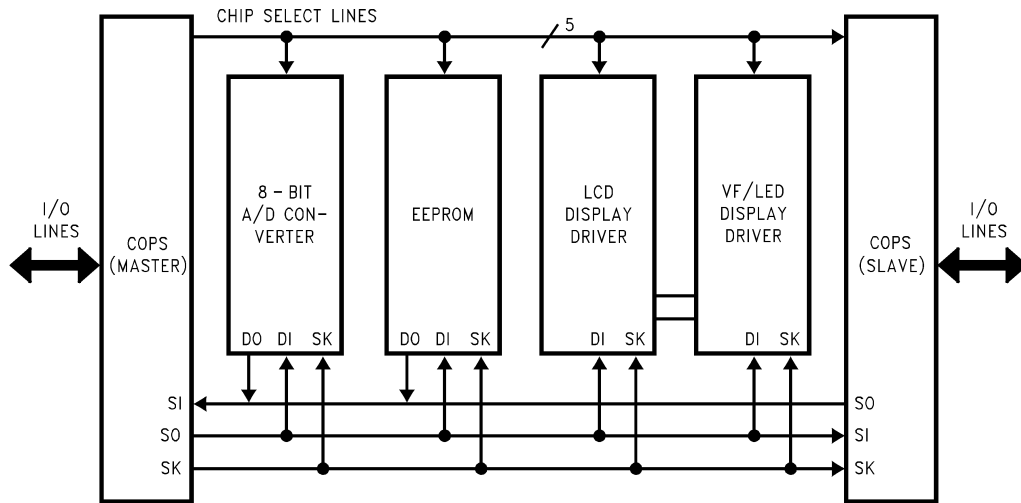

FIGURE 29. MICROWIRE/PLUS Application
MICROWIRE/PLUS is a serial SPI compatible synchronous communications interface. The MICROWIRE/PLUS capability enables the device to interface with MICROWIRE/PLUS or SPI peripherals (i.e. A/D converters, display drivers, EEPROMs etc.) and with other microcontrollers which support the MICROWIRE/PLUS or SPI interface. It consists of an 8-bit serial shift register (SIO) with serial data input (SI), serial data output (SO) and serial shift clock (SK). Figure 29 shows a block diagram of the MICROWIRE/PLUS logic.
Setting the BUSY bit in the PSW register causes the MICROWIRE/PLUS to start shifting the data. It gets reset when eight data bits have been shifted. The user may reset the BUSY bit by software to allow less than 8 bits to shift. If enabled, an interrupt is generated when eight data bits have been shifted. The device may enter the MICROWIRE/PLUS mode either as a Master or as a Slave. Figure 29 shows how two microcontroller devices and several peripherals may be interconnected using the MICROWIRE/PLUS arrangements.